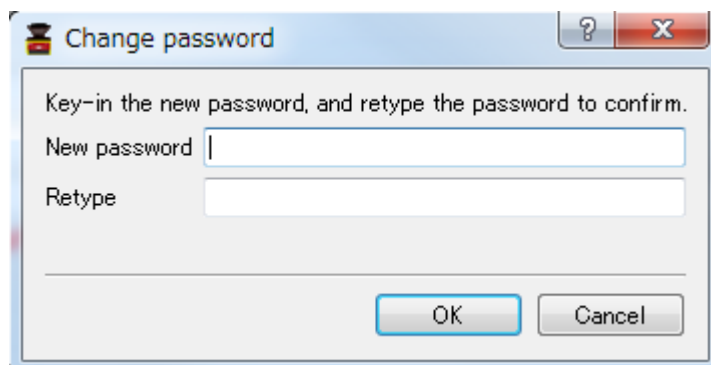

Figure 7-38 Password change
- Window as shown in figure 7-38 will be displayed.